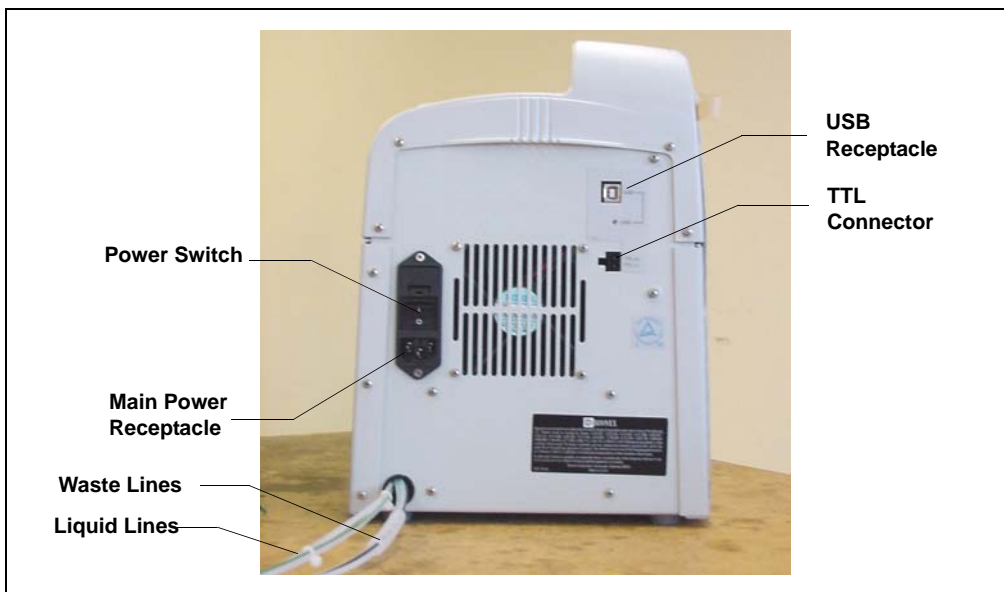

Figure B-5. ICS-90 Rear Panel
The ICS-90 rear panel (see Figure B-5) provides one USB receptacle. Select one of the following methods for connecting the ICS-90 to the PC on which Chromeleon or Chromeleon Xpress is installed:
2. Connect the power cord (IEC 320 C13) from the main power receptacle on the rear panel (see Figure B-5) to a grounded power source.